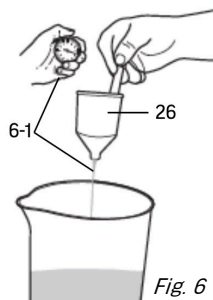

Fig. 6
3. Holding the cup over the paint/material container, measure the amount of time it takes for the stream of the paint/material (Fig. 6-1) to stop flowing or break in consistency (Fig. 6).